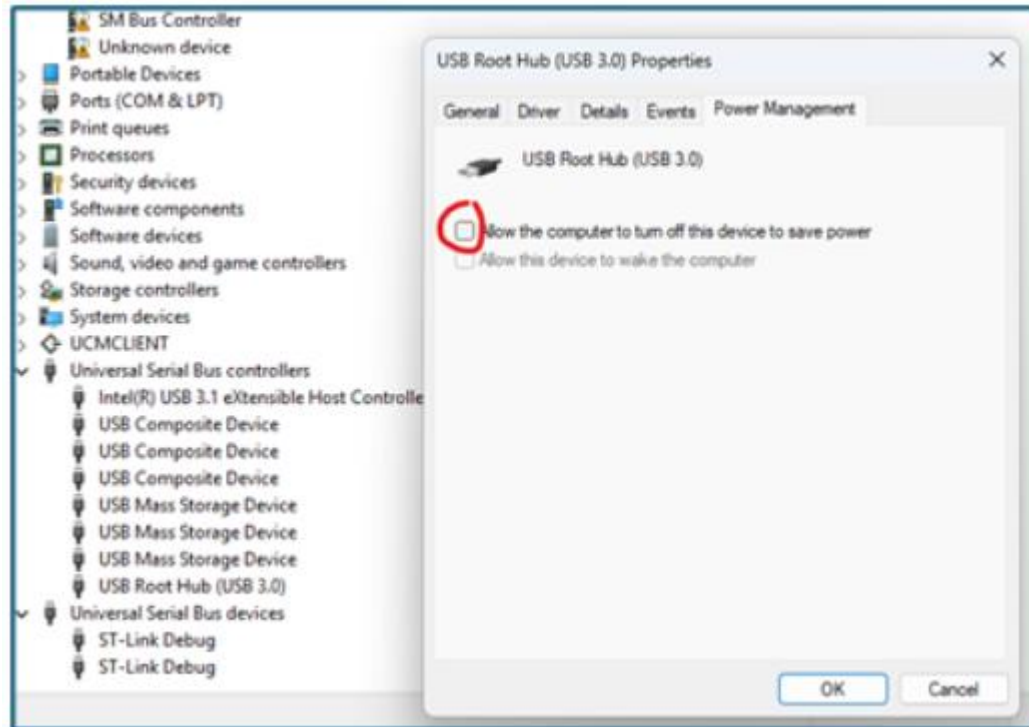

Figure 20: Windows 11 USB Power Management settings
- Uncheck "Allow the computer to turn off this device to save power" on all USB port" on windows System settings (Figure 20)